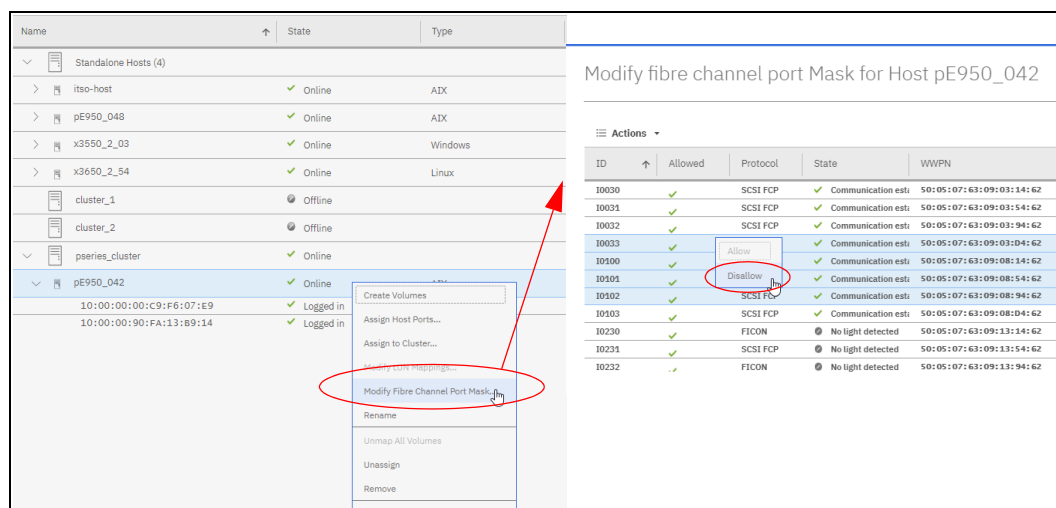

Figure 9-64 Modifying the Fibre Channel Port Mask
2. Select one or more ports to disallow. You can use the Ctrl or Shift key for multiple selections. Click **Save**, as shown in Figure 9-64.